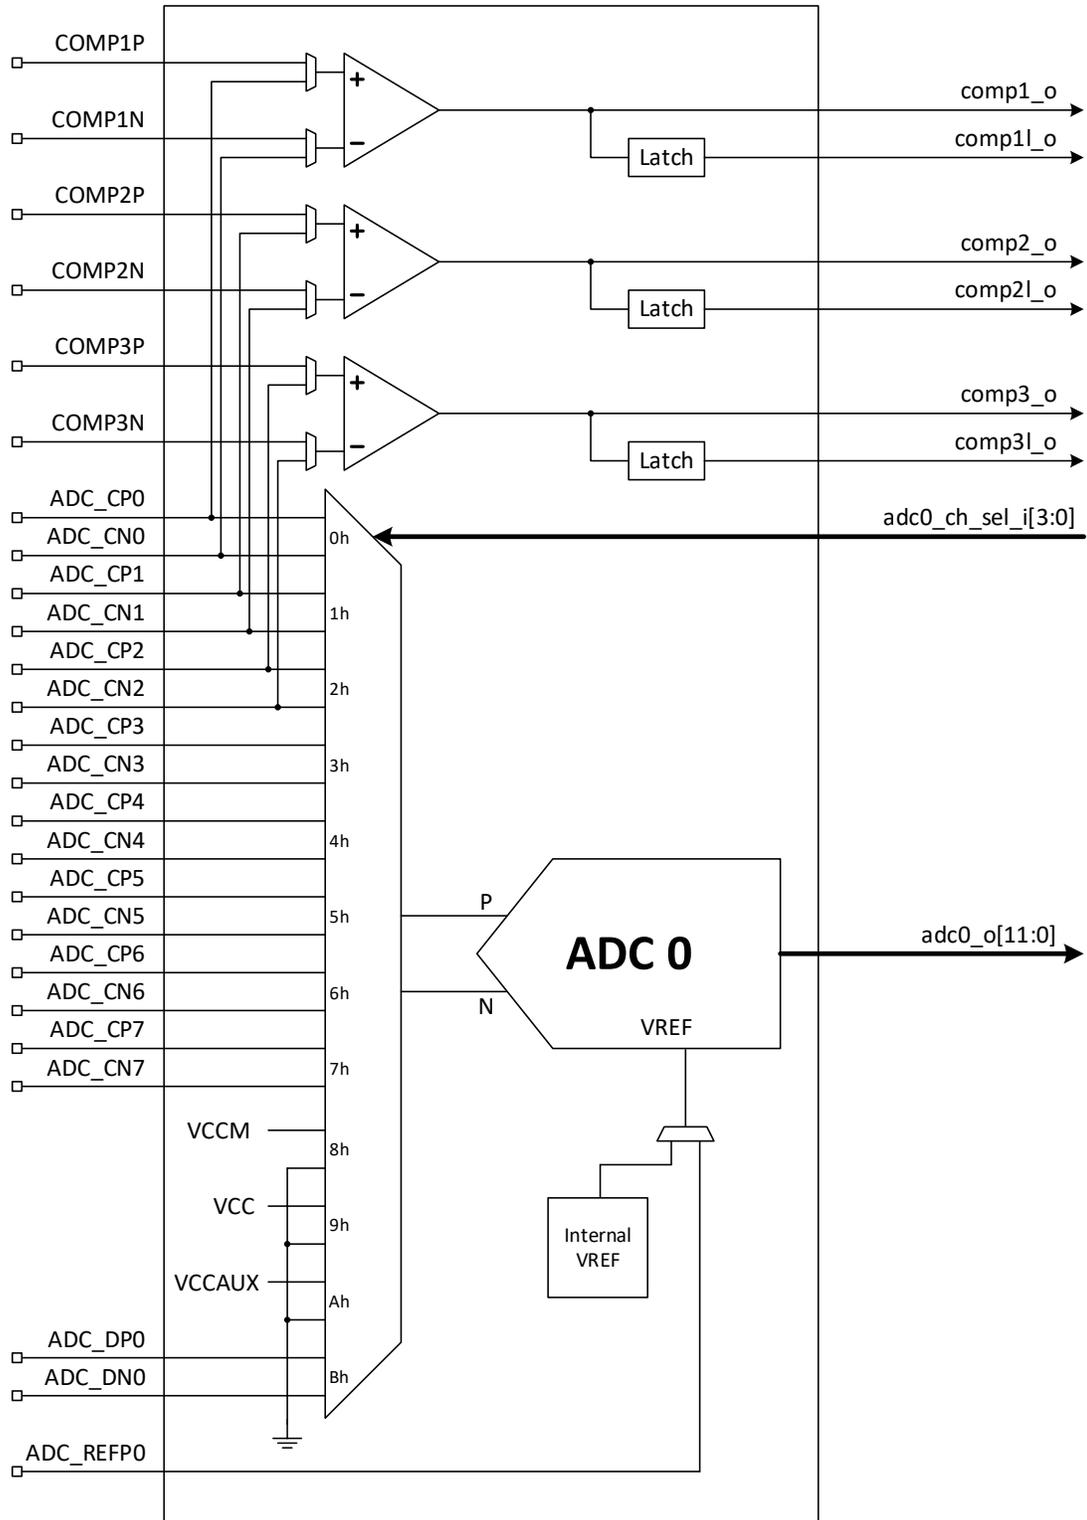

Figure 2.2. ADC Core Module ADC 0 Block
| Figure 2.2. ADC Core Module ADC 0 Block | 9 |
- ADC 0 Block (see Figure 2.2):